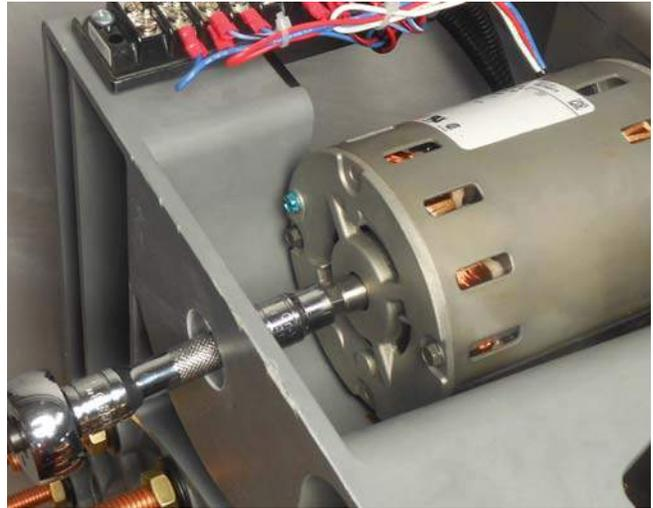

**Figure 121. Wire fastening**
19. Use the wire ties provided in the motor replacement kit to bundle all the wires near the terminal board. Trim the excess length of the wire ties. See Figure 121.